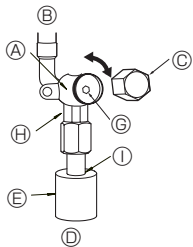
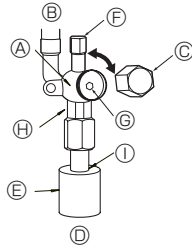

Fig. 4-5
Fig. 4-6
(1) Gas side of SP100-SP140 (Fig. 4-5)
- ① Remove the cap and turn the valve rod counterclockwise as far as it will go with the use of a 5 mm hexagonal wrench. Stop turning when it hits the stopper. ($\phi 15.88$: Approximately 13 revolutions)
- ② Make sure that the stop valve is open completely and rotate the cap back to its original position.
(2) Liquid side of SP100-SP140 (Fig. 4-6)
- ① Remove the cap and turn the valve rod counterclockwise as far as it will go with the use of a 4 mm hexagonal wrench. Stop turning when it hits the stopper. ($\phi 9.52$: Approximately 10 revolutions)